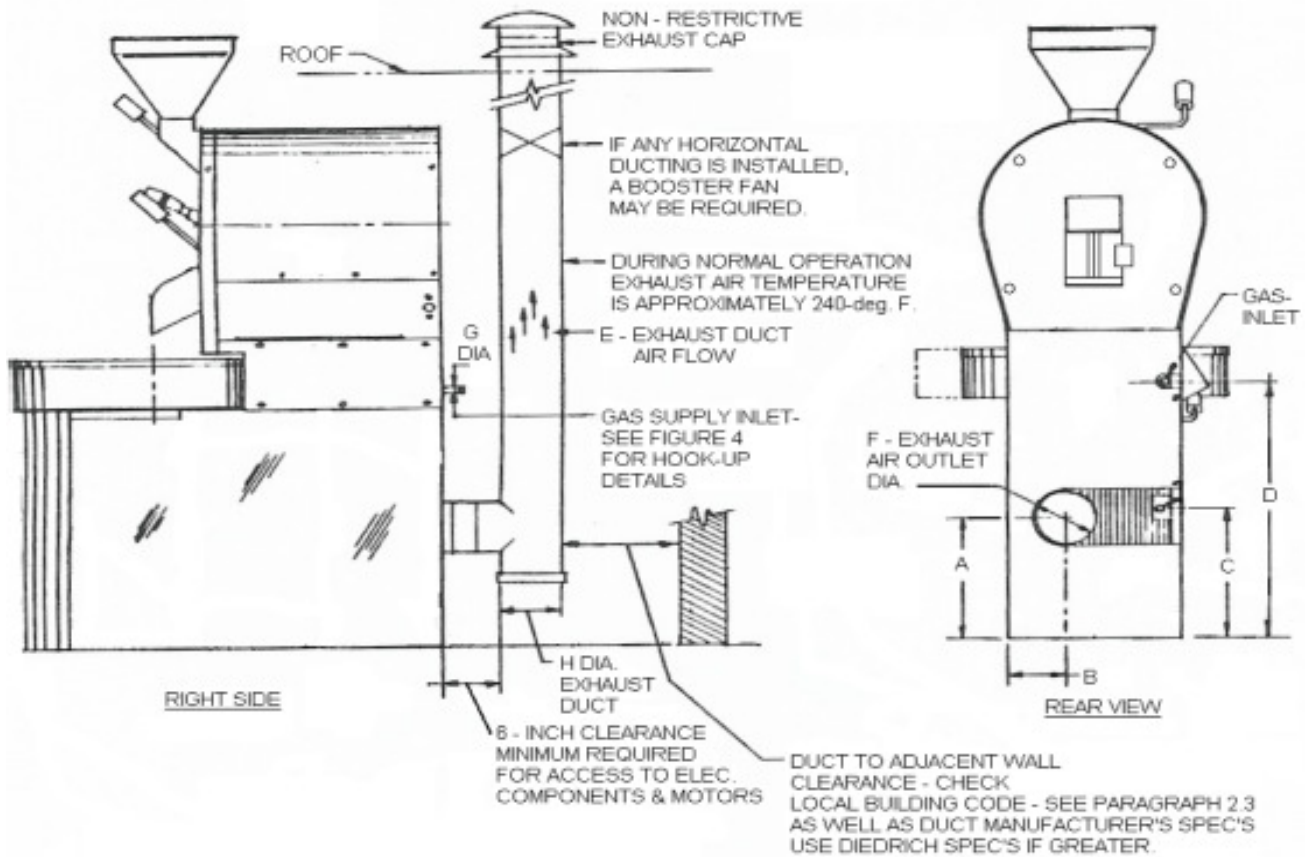

FIGURE 5 - INSTALLATION HOOK-UP DIMENSIONS FOR EXHAUST AIR DUCT AND ELECTRICAL JUNCTION BOX
2.5 ELECTRICAL INSTALLATION (See Figures 5 and 12)
2.6 ROASTER EXHAUST DUCTING (See Figure 5)